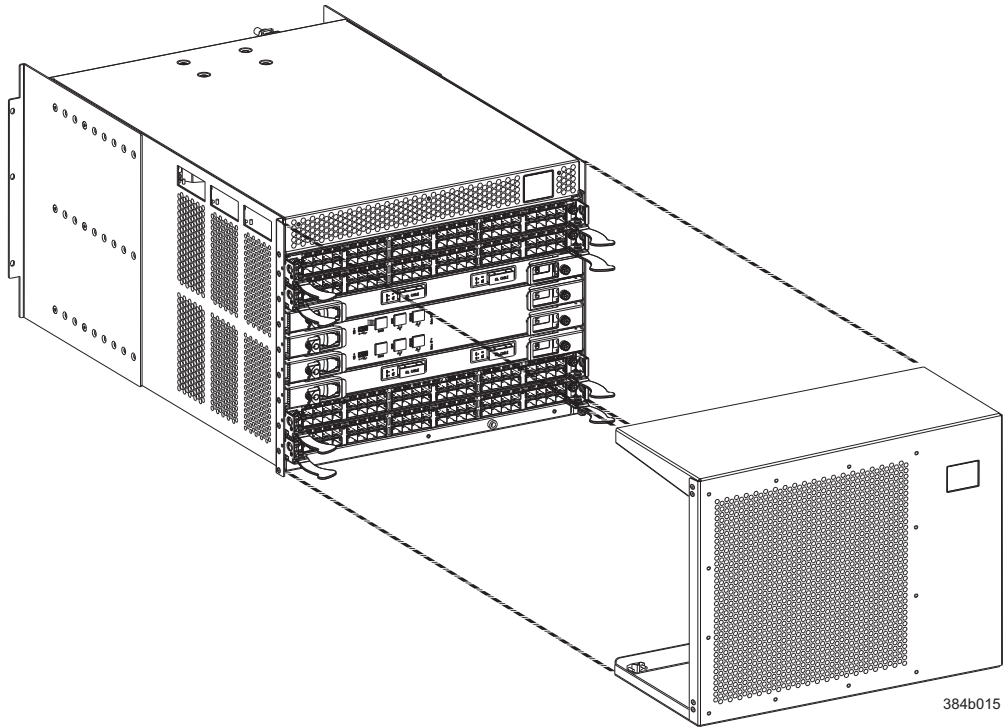

Figure 27. Chassis door
2. Push the door into place. It will snap onto the studs. See Figure 27 on page 62.